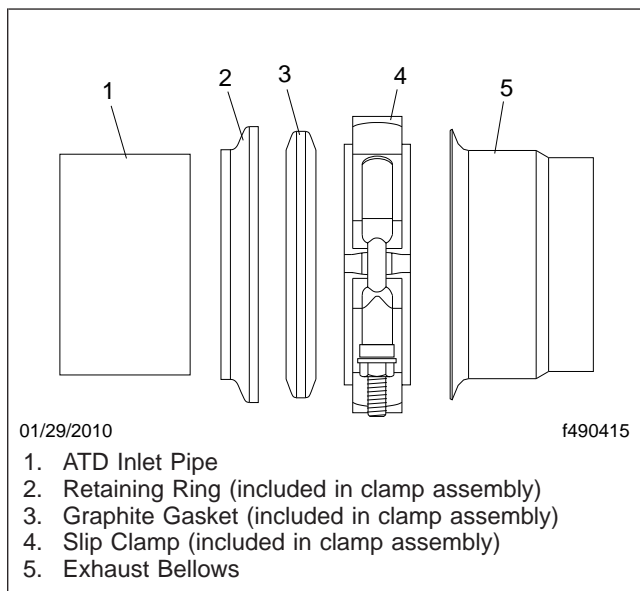

Fig. 5, Aft Facing Slip Clamp Installation
8. Slide the slip clamp assembly, with the retaining ring and graphite gasket ring, on the ATD inlet pipe. See Fig. 5 for proper installation.